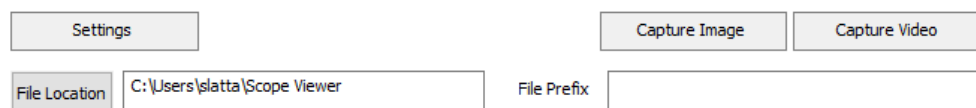

Figure 12
1. Select the *Capture Video* Button (Fig. 12).